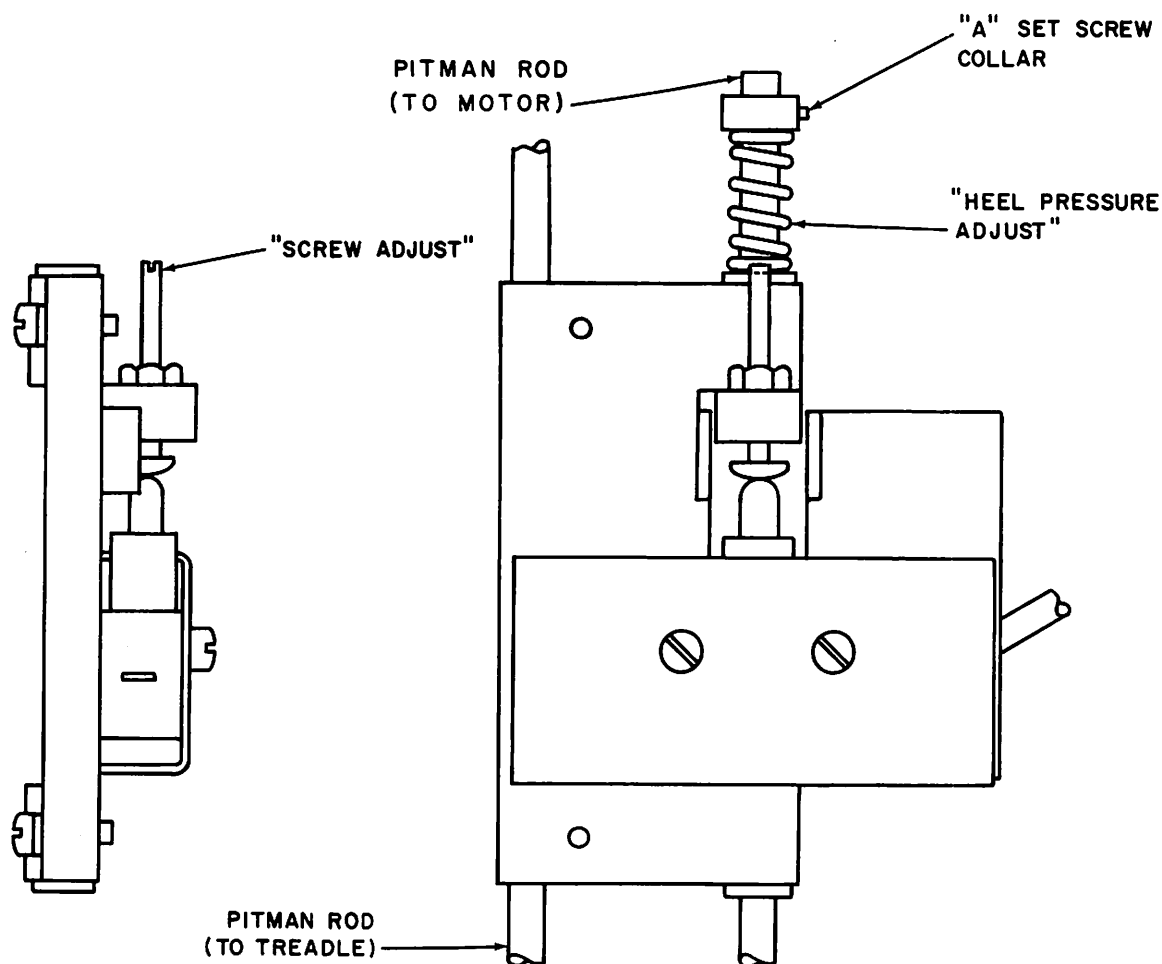

Figure 4....Heel Switch Installation
2-4-1. HEEL SWITCH...The purpose of the heel switch is to activate the needle positioner. Since the heel switch is mounted on the Pitman rod, when the treadle is firmly heeled, the heel switch is activated. If the heel switch has not been mounted on the Pitman rod, refer to Figure 4 for its proper position and proceed as follows:
- b. Install heel switch as shown in Figure 4.